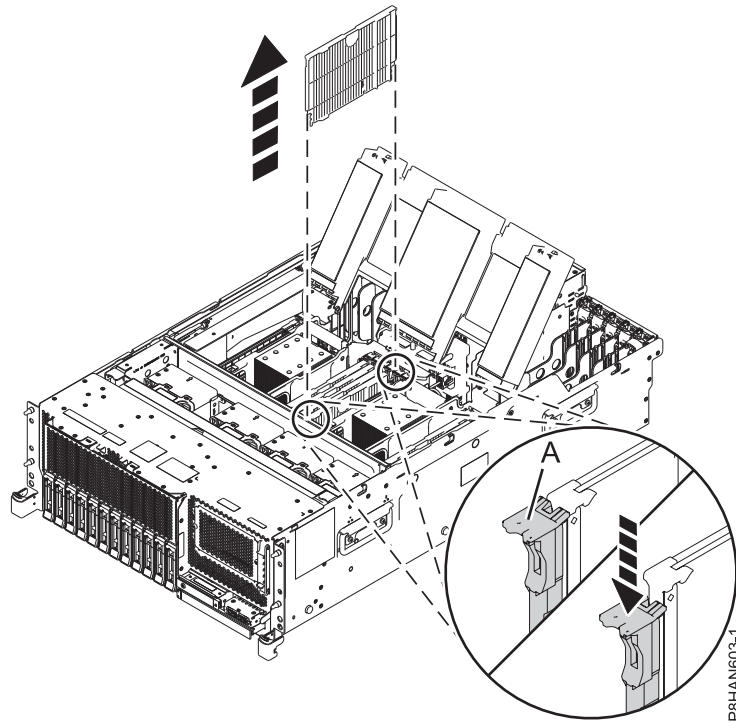

Figure 2. Removing a memory module filler from the memory module slot in an 8247-42L, 8286-41A, or 8286-42A system
- a. To unlock the memory module filler from its connector in the slot, push the locking tabs (A) in the direction that is shown in Figure 2 on page 5. The lever action of the tabs forces the memory module filler out of the connector.